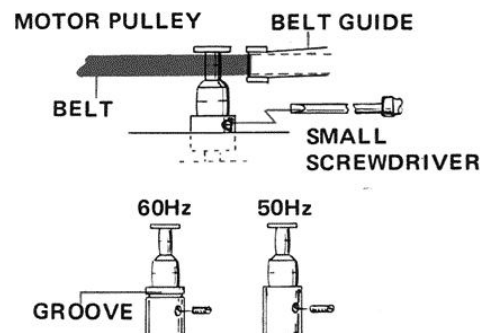

Fig. 3
4. The belt should be positioned in the belt guide and around the center of the upper (smaller) part of the motor pulley. To achieve this, it may be necessary to loosen the pulley once more and adjust its height as shown in Fig. 3.